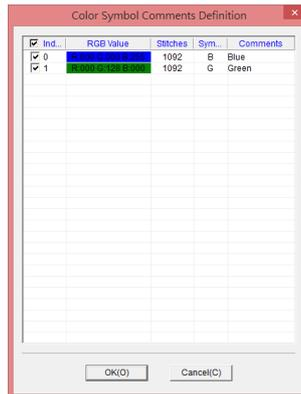

Figure 6-38 Color Symbol Print Setting
- D. Symbol Setting: It is to define the colors with symbols, see Figure 6-38, color 1 has the RGB color value R000/G128/B000, number of stitches 1092, it is defined with "G", click on the symbol column, it will go to edit mode for changing of the defined symbol. It is freely to define any symbol text upon the habit and understanding of knit technicians. The comments can be added with the actual description of colors;